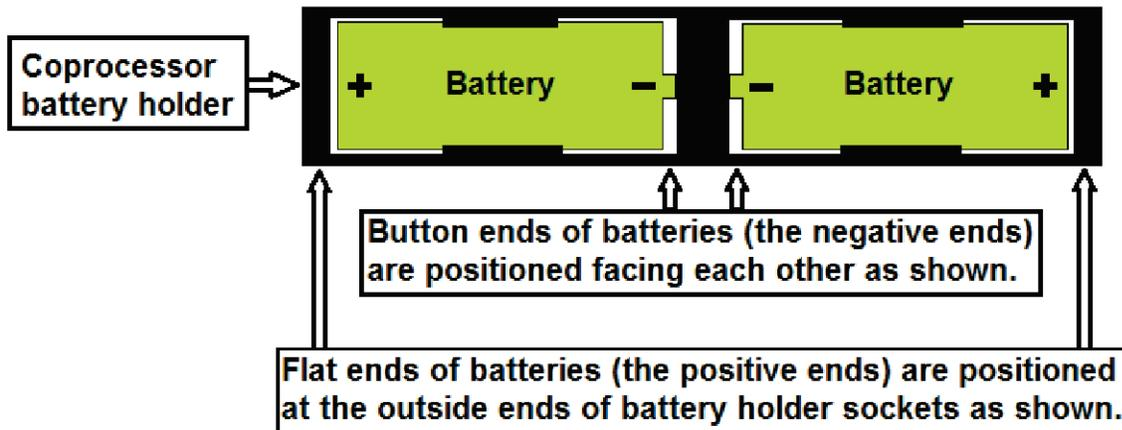

Figure 2. Battery holder
14. Refer to Figure 2 on page 9. Install the fresh and tested battery (not the one in the temporary-battery tray) with the flat end of the battery (+) positioned at the outside end of the top socket of the battery holder, and the button end of